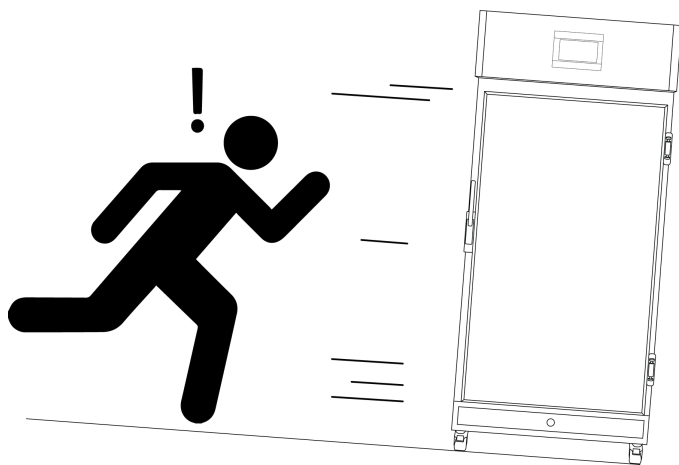

Fig 1.
- Castors can be fixed in place by pushing down on the brake lever. Ensure the castors are locked to prevent unwanted movement from the cabinet. (**Fig 1**)